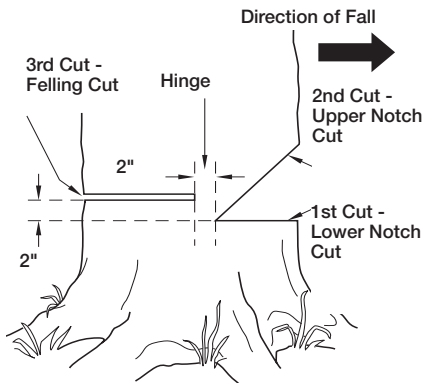

Figure 12 - Felling A Tree
A properly placed felling notch will determine direction tree will fall. Place felling notch on side of tree in direction you want tree to fall (see Figure 12). Follow directions below to create a felling notch.
1. Make lower notch cut as close to ground as possible. Hold saw so guide bar is horizontal. Cut 1/3 the diameter of tree trunk (see Figure 12). Note: Always make this horizontal lower notch cut first. If you make this cut second, tree can pinch chain or guide bar.
Example: If lower notch cut is eight inches deep, start upper notch cut eight inches above it. Cut downward at 45° angle. The upper notch cut should meet end of lower notch cut (see Figure 12).
1. Make felling cut two inches higher than lower notch cut and on opposite side of tree (see Figure 12). Keep felling cut parallel to lower notch cut.
⚠ WARNING: Do not cut all the way through tree. Leave about two inches of tree diameter uncut directly behind felling notch (see Figure 12). This uncut portion acts as a hinge. The hinge helps keep tree from twisting and falling in wrong direction.